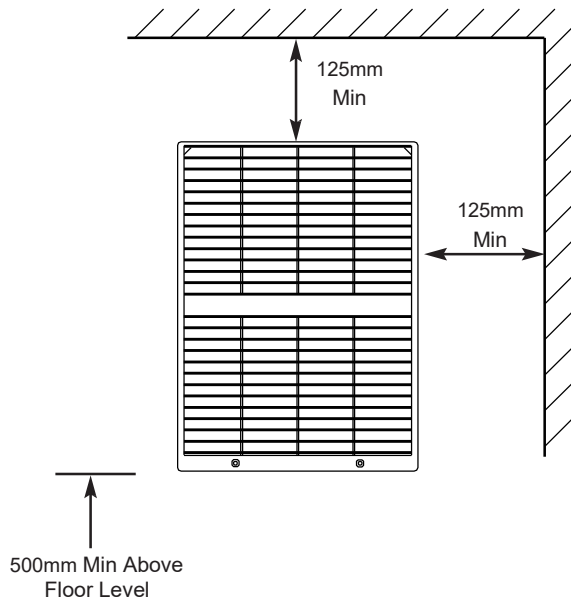

Fig. 2
12. The internal grille surround must be sited at least 125mm away from any wall or projecting surface (Fig. 2).